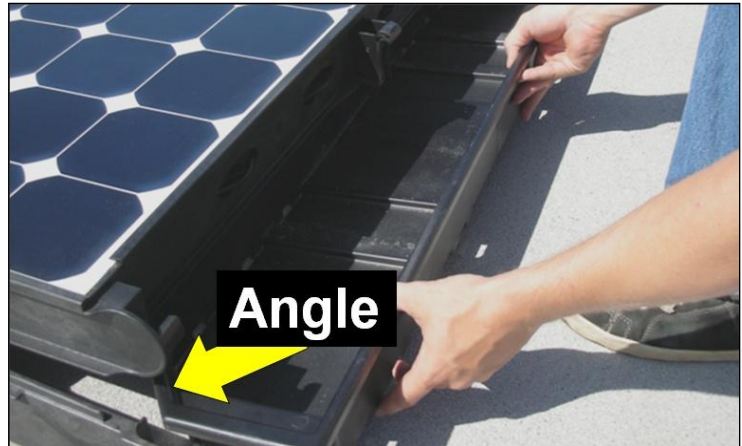

Fig. 17
1. With its angled corners toward the module (Fig. 17), position the tray lengthwise along the north edge of the module (Fig. 18).